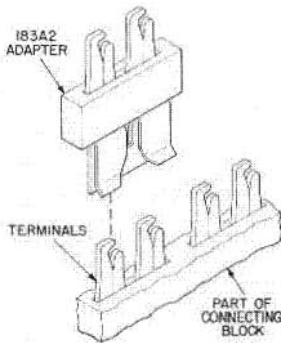
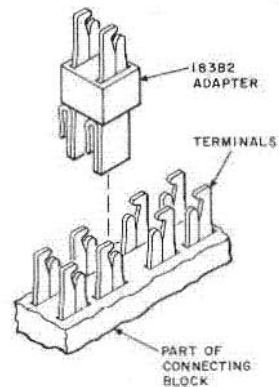

Fig. 13—183A2 Adapter, Installation Detail
Fig. 15—183B2 Adapter, Installation Detail
4.04 The 183A2 adapter (Fig. 13) and 183B2 adapter (Fig. 15) provide additional multiplying capacity for horizontal and vertical terminals, respectively, on 66-type connecting blocks. If more than five adapters per block are needed, consider using additional blocks.